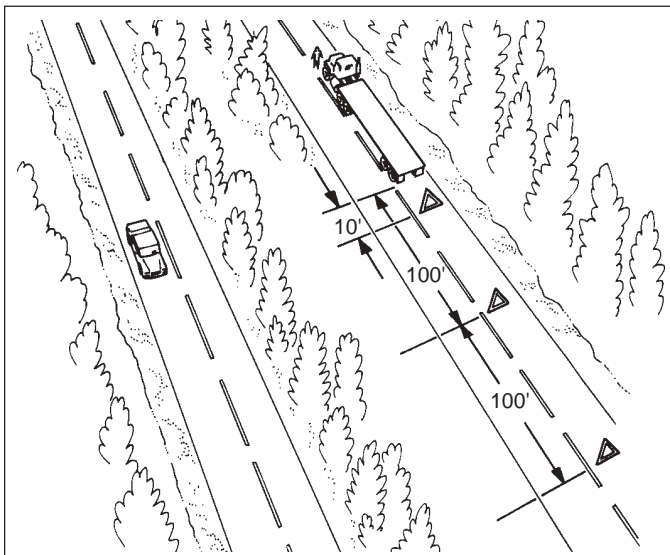

Figure 2-10.
- If you must stop on or by a one-way or divided highway, place warning devices 10 feet, 100 feet, and 200 feet toward the approaching traffic. (Figure 2-10.)